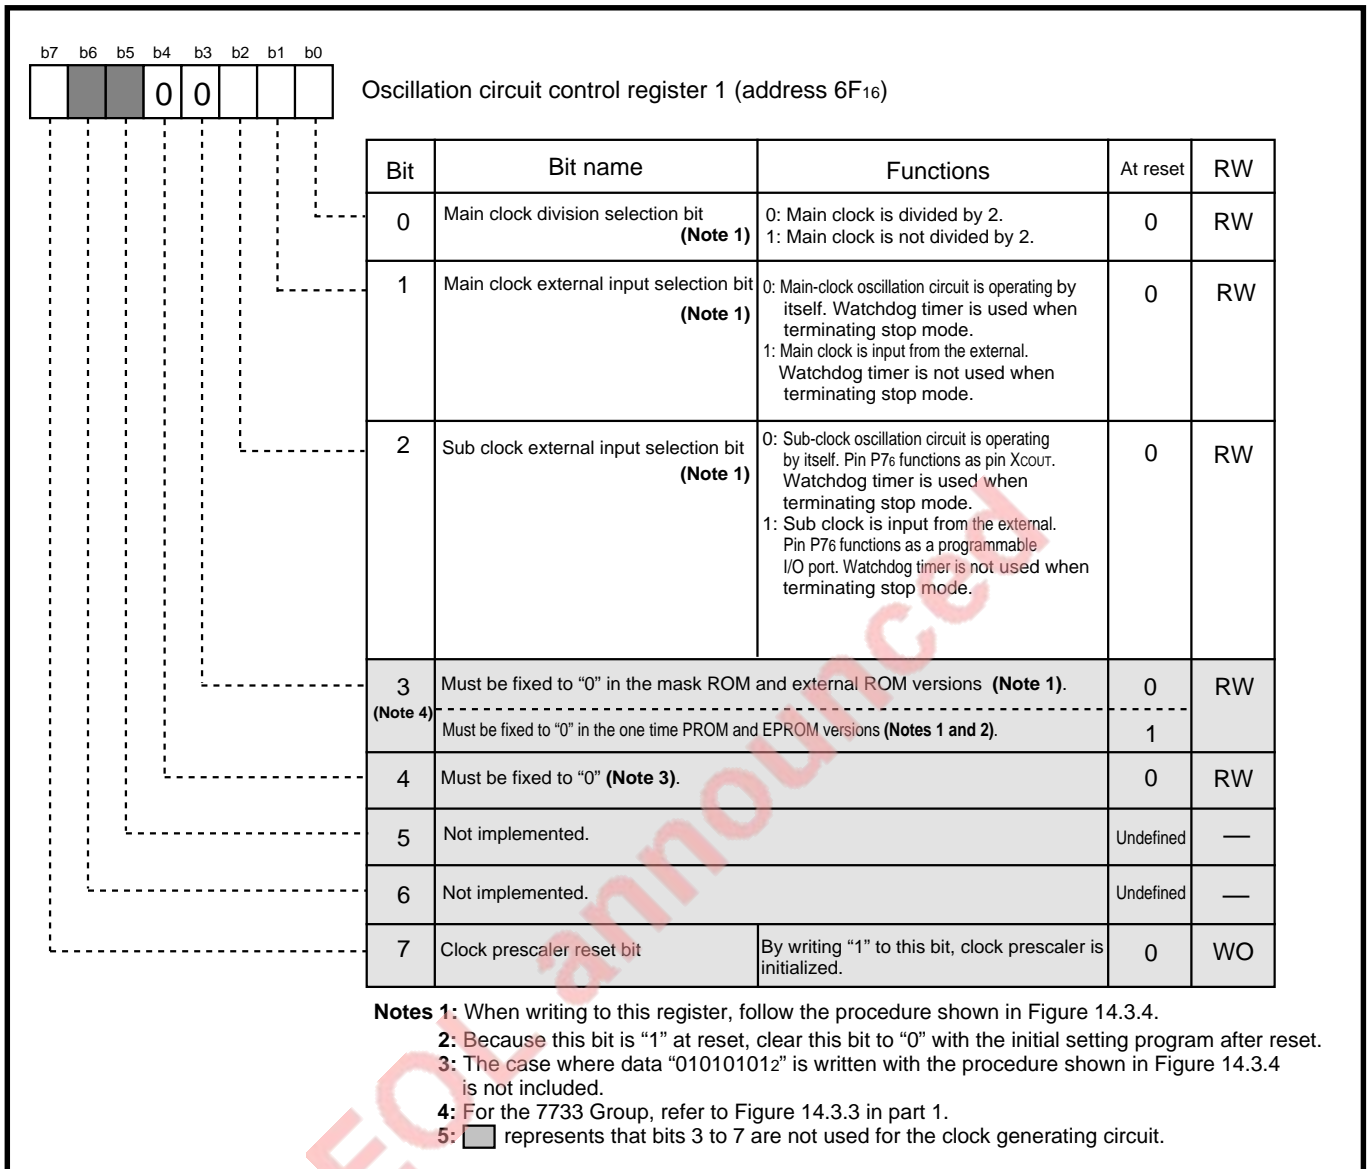

Fig. 14.3.3 Structure of oscillation circuit control register 1
*3 State immediately after reset for bit 3 at address 6F16 vary according to the microcomputer. (Refer to **Figure 14.3.3 in part 2** ; This bit's function of the 7735 Group differs from that of the 7733 Group.)
- **Figures 14.3.3 and 14.3.4**